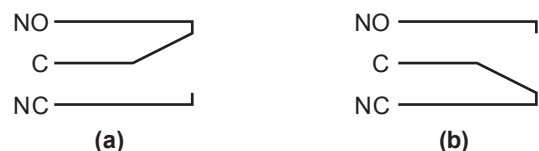

Figure 5: Alarm contacts...
3.6 External Alarm: All **MULTIMOV** surge diverters are fitted with external alarms (voltage free changeover contacts) for remote monitoring of unit status. The terminals have a capacity of 2.5mm² and are configured as follows (refer to Figure 5):